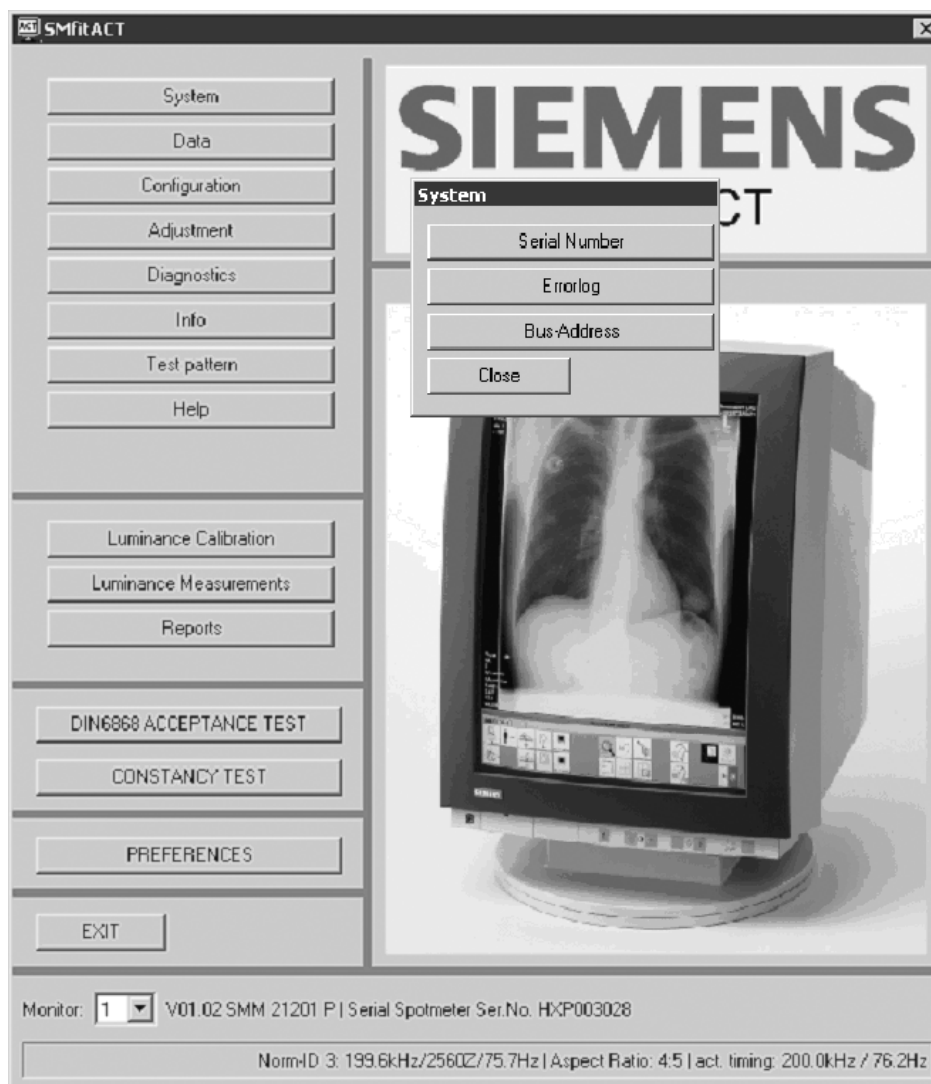

Fig. 10 System Menu
12. Go to **System** menu (see Fig. 10).